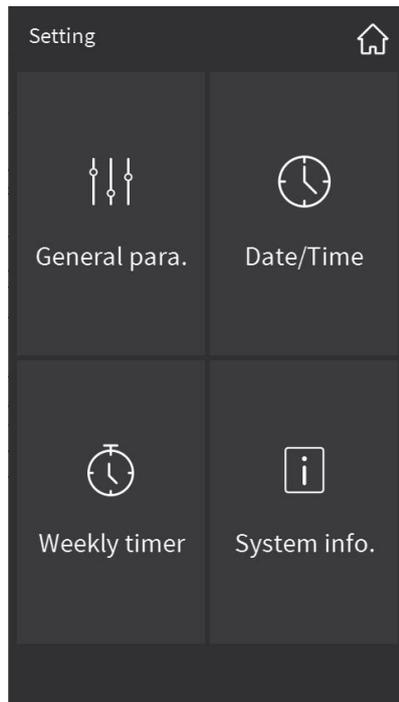
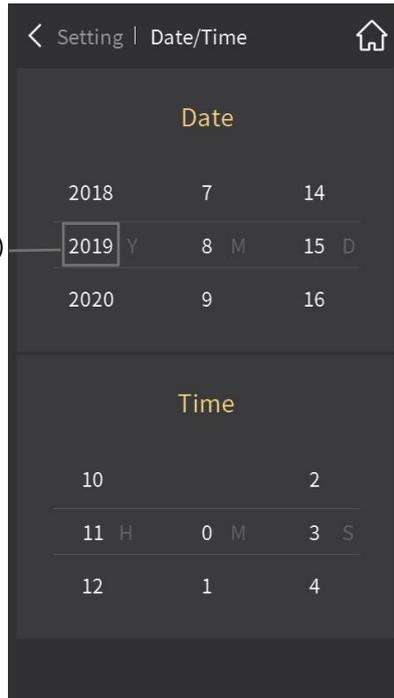
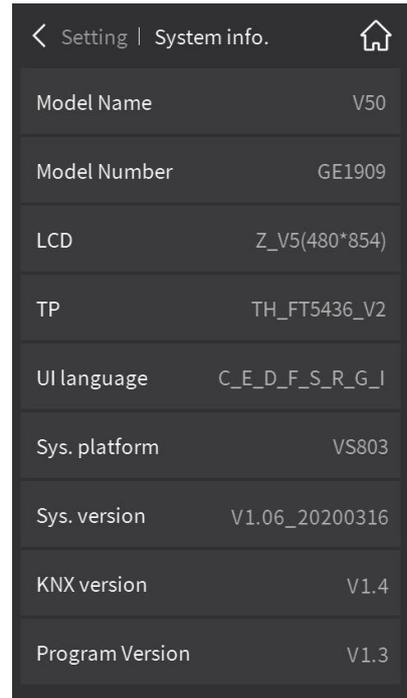
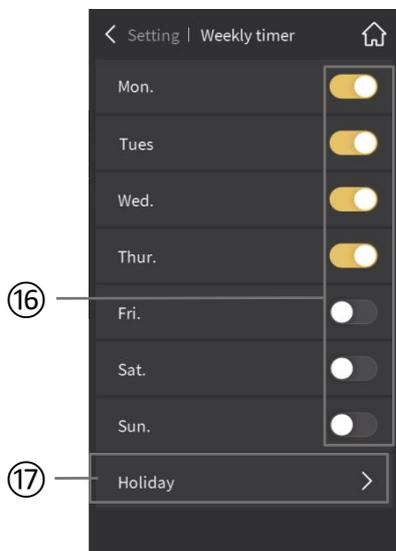

Fig.2.11.1
Fig.2.11.7
Fig.2.11.8
Fig.2.11.9
Click the setting icon in the upper-right corner of the main page to enter the setting page, as shown in Fig.2.11.1.
⑮ Sliding the number to choose the current date and time;
Click “Date/Time” in Fig.2.11.1 to enter the date/time setting interface as shown in Fig.2.11.7. In this interface, slide a number to select the current date and time. After the completion of the setting, touch the upper-left corner icon② to return to the Setting page.
Click “System Info.” in Fig.2.11.1 to enter the system information display interface as shown in Fig.2.11.8. You can view the system information of the device, including name code, internal code, LCD screen, touch screen, interface language, system platform, system version , KNX version and program version.
Click “Weekly Timer” in Fig.2.11.1 to enter the weekly timer display interface as shown in Fig.2.11.9. The weekly timer needs to be enabled through parameter configuration. Weekly timer before being configured is not operable. In the case of configuration, click “weekly timer” in Fig.2.11.1 to enter the weekly timer setting interface as shown in Fig.2.11.9.